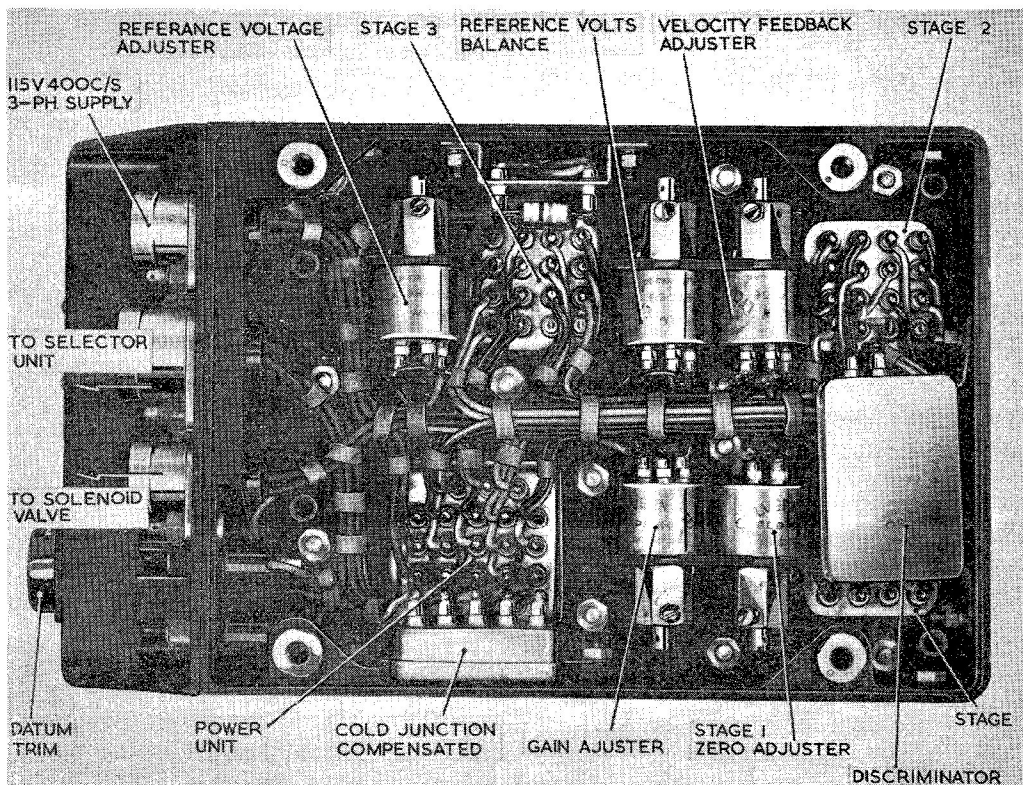

Fig 2. Underside of amplifier, with cover removed
4. Stage 1, stage 2, stage 3, the power unit, the cold junction compensator and the discriminator are all housed in separate sealed cans and can be seen on removal of the amplifier base plate (*fig. 2*). On the same casting are fitted the amplifier controls namely, gain, stage 1 zero, velocity feedback, and reference volts load and balance.